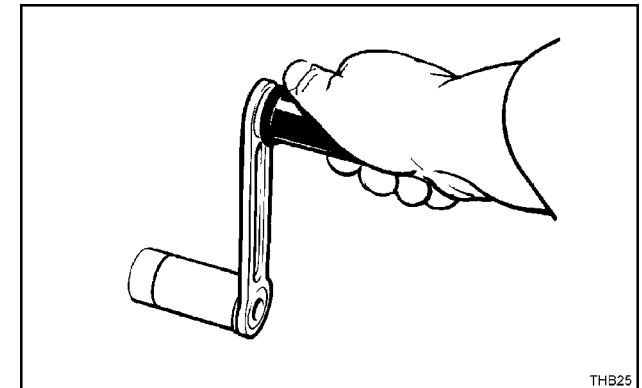

Figure 2.2.2 Holding the Starting Handle
7. Firmly hold the handle grip, with the thumb on top of the grip as shown in 'Figure 2.2.2', and crank the engine really fast, when sufficient speed is obtained move the decompressor lever towards the gear end and continue to crank until the engine fires.